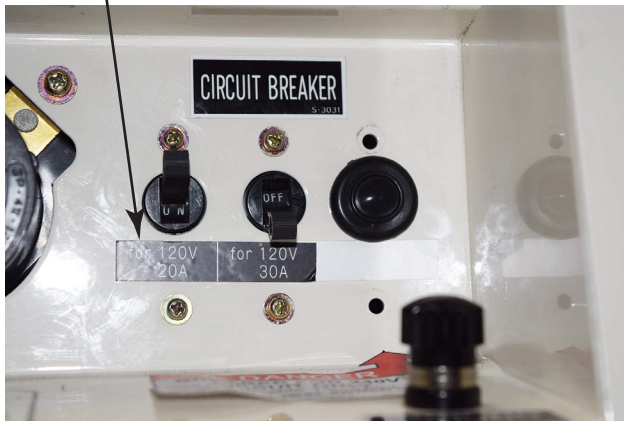

Figure 9. Installation of New Decals
2. Attach the 2 sections of the new decal (P/N A92100350) to the 2 locations shown in Figure 9.